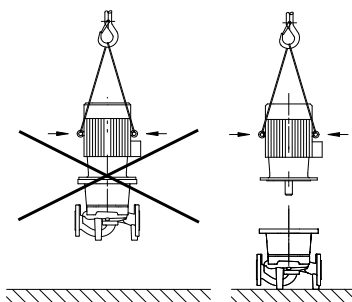

Fig. 6: Transporting the motor
- If transport eyes are attached to the motor, they are only approved for transporting the motor, not the complete pump (fig. 6).